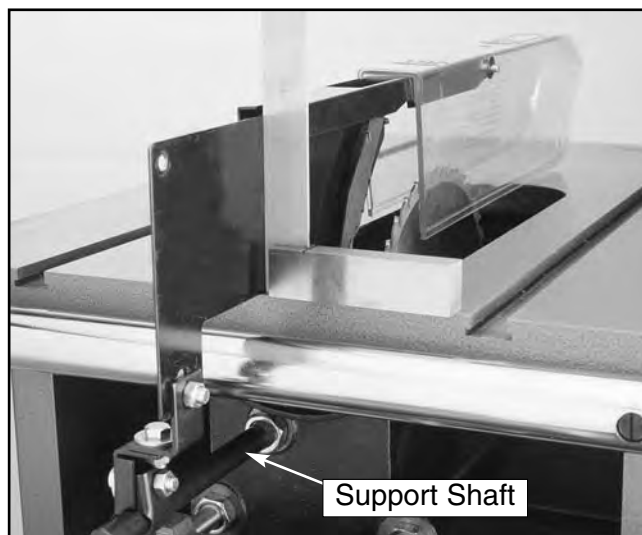

Figure 27. Adjusting blade guard.
5. Using a machinist's or a combination square, align the face of the splitter perpendicular to the surface of the saw table as shown in **Figure 27**. Rotate the support shaft slightly. This will normally correct any minor misalignment.